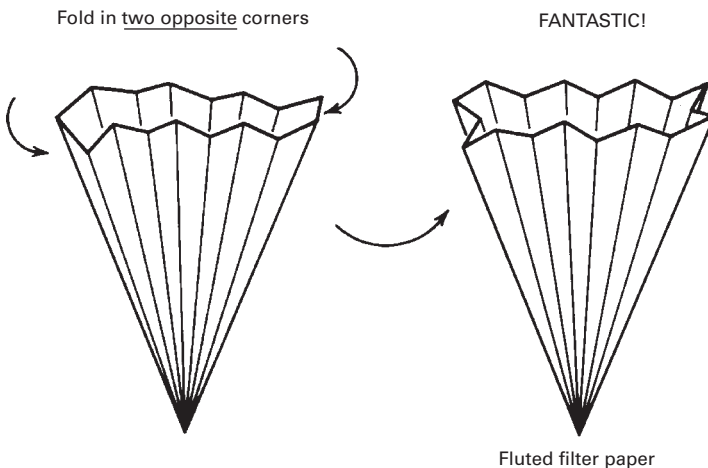

FIGURE 13.12 Finishing the final fluted fan.
4. Open the fan and play with it until you get a fairly fluted filter cone (Fig. 13.12).
5. It’ll be a bit difficult, but try to find the two opposing sections that are not folded correctly. Fold them inward (Fig. 13.12), and you’ll have a fantastic fan-folded fluted filter paper of your very own.